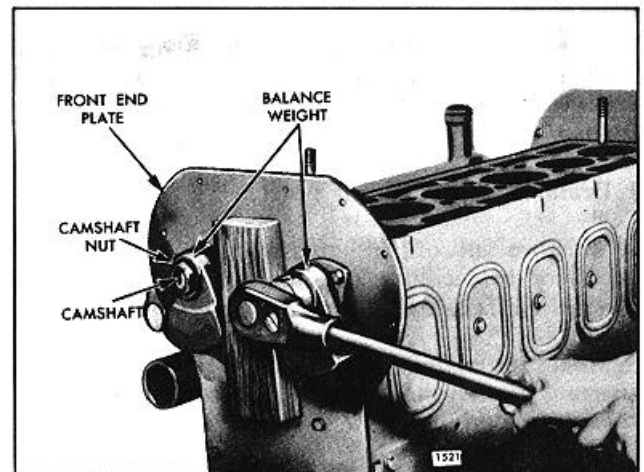

Fig. 4. Loosening Nut on Camshaft or Balance Shaft
6. Remove the front balance weight cover and place a wood block between the balance weights (Fig. 4) or wedge a clean rag between the camshaft and balance shaft drive gears at the rear of the engine.
4. Remove the front balance weight cover and place a wood block between the balance weights (Fig. 4).